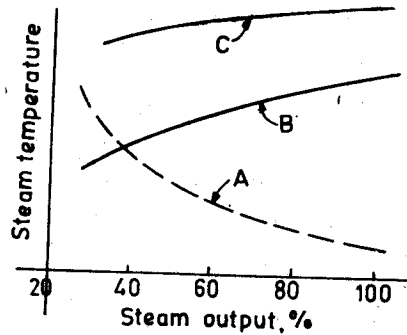

Fig. 7
12. Fig. 7 shows the steam temperature rise in following superheater types